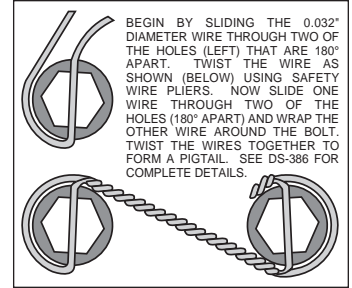

Figure 3. Safety Wire Diagram
- Orient the rotor (3) and the hat (4) as shown in Figure 1 and Photo 1. Attach rotor to hat using bolts (6), washers (5) and t-nuts (13). Using an alternating sequence, apply red *Loctite*[®] 271 to the threads, and torque to 120 **in-lbs**. Please refer to Wilwood's data sheet DS-392 (available at www.wilwood.com/Pdf/DataSheets/ds392.pdf) for complete t-nut bolt kit installation instructions. Safety wire bolts using standard 0.032 inch diameter stainless steel safety wire as shown in Figure 3. Refer to Wilwood's data sheet DS-386 (available at www.wilwood.com/Pdf/DataSheets/ds386.pdf) for complete safety wire installation instructions.